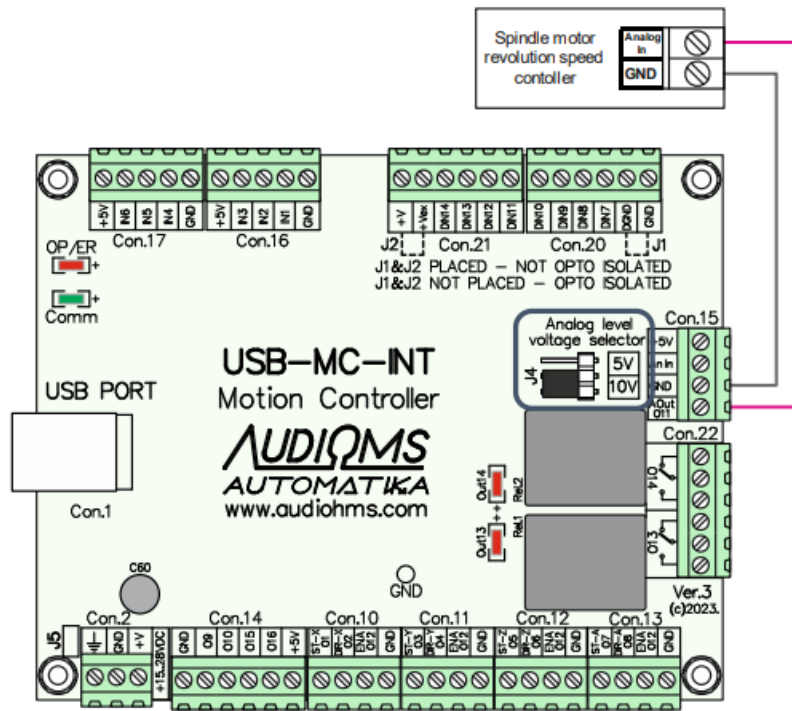

Figure 8.11 Analog output for controlling spindle motor revolution rate
- USB-MC-INT motion controller has one analog output. Analog output Aout is available on connector Con. 15 (Figure 8.11). The control of the analog output Aout is done by generating a PWM signal on digital output O11.